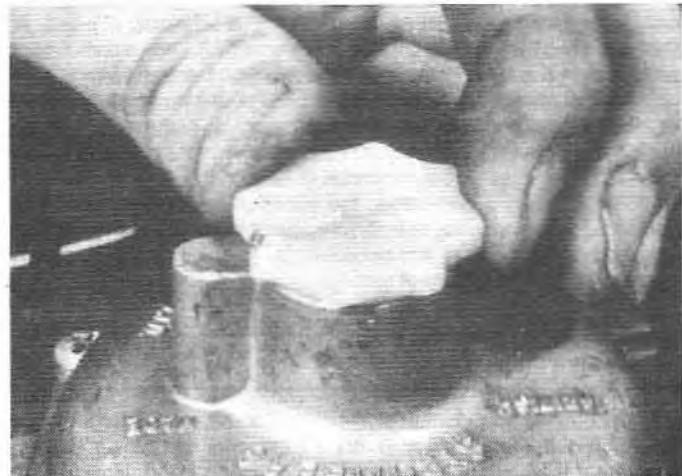

Fig. 3.8 On Stromberg carburetors, check that the damper is full of the proper oil and tighten the cap securely
- 2 Check the damper oil on Stromberg carburetors. (refer to Fig. 3.8).